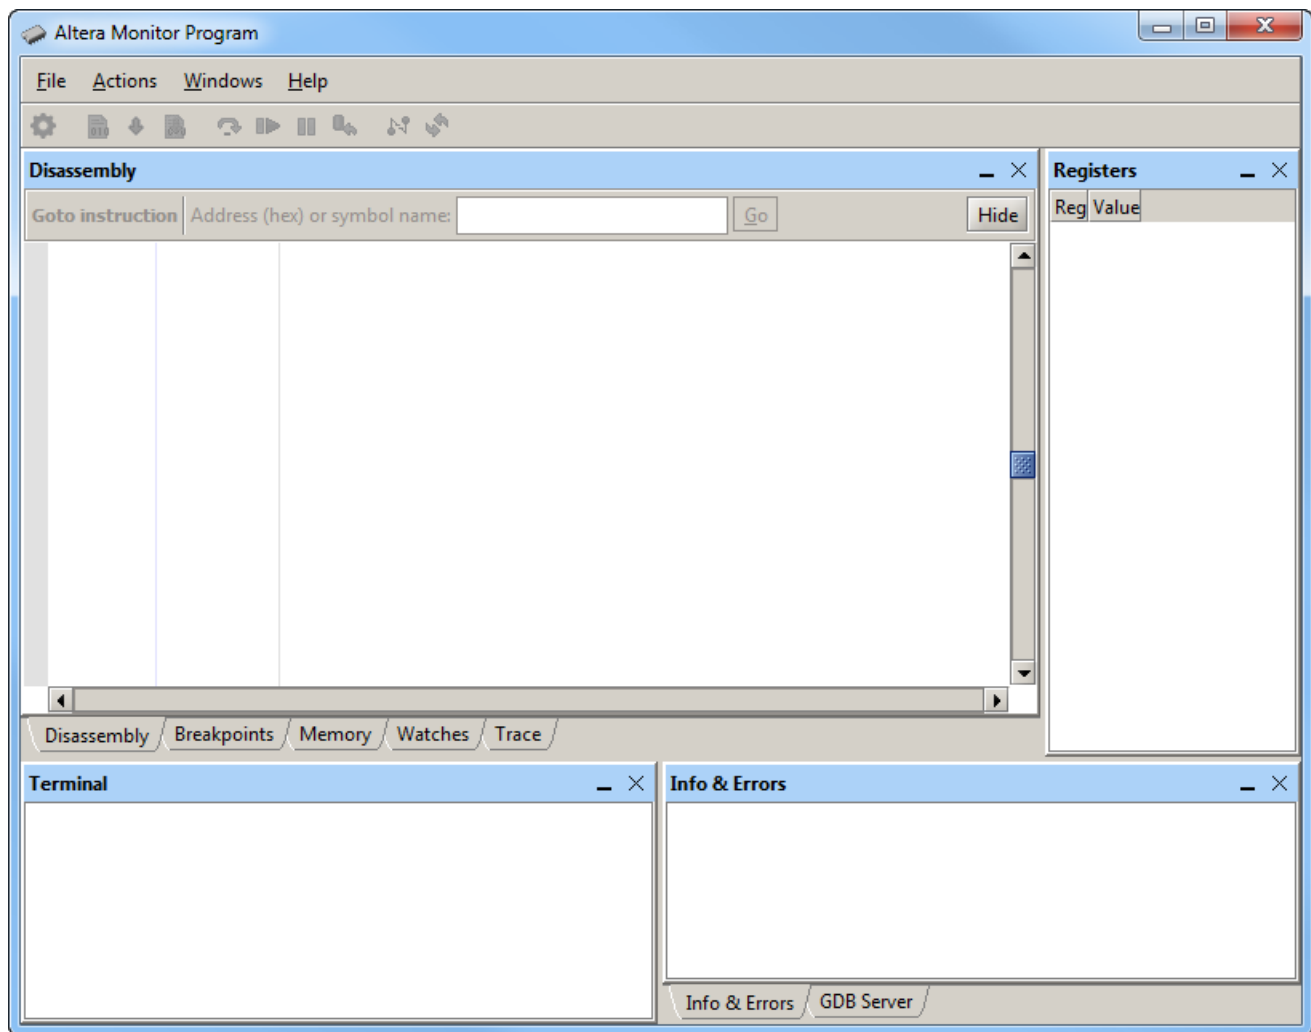

Figure 25. The Altera Monitor Program main window.
Open the Altera Monitor Program, which leads to the window in Figure 25.
9. Now, in the monitor window in Figure 25 select Actions > Compile & Load to assemble and download your program.